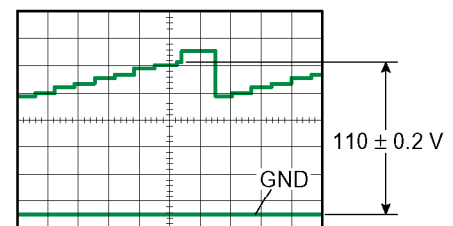

Fig. 4-5
- Adjust the Increment Button (+) or Decrement Button (–) so that the G Pedestal becomes to $110 \pm 2 \text{ V}$ as shown in Fig. 4-5.